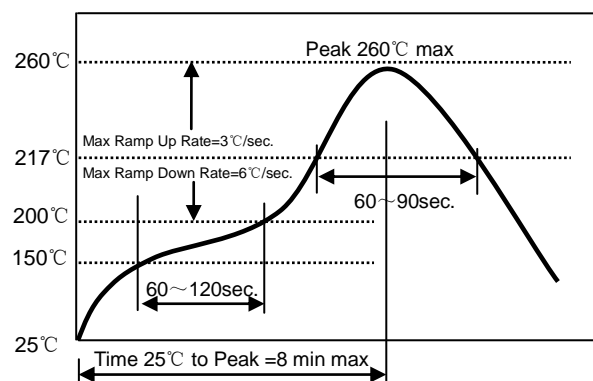

Fig. 12.1-1
- Please refer to Fig. 12.1-1.